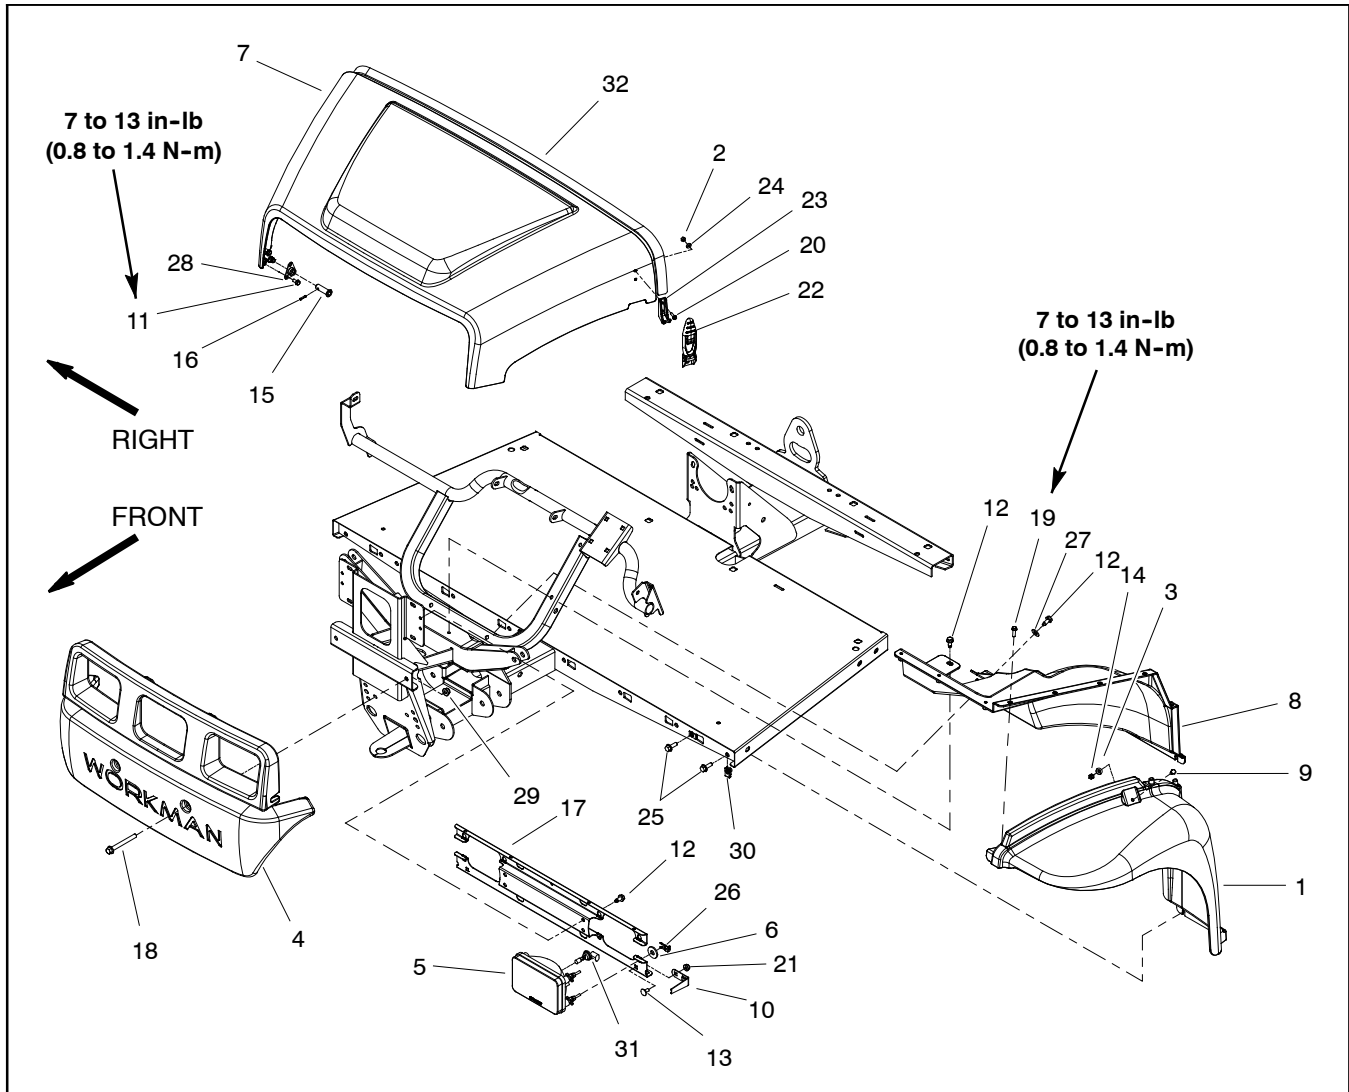

Figure 35
Removal (Fig. 35)
2. Remove hood using Figure 35 as a guide.
Installation (Fig. 35)
1. Install hood using Figure 35 as a guide. During assembly, use fastener torque specifications that are identified in Figure 35.